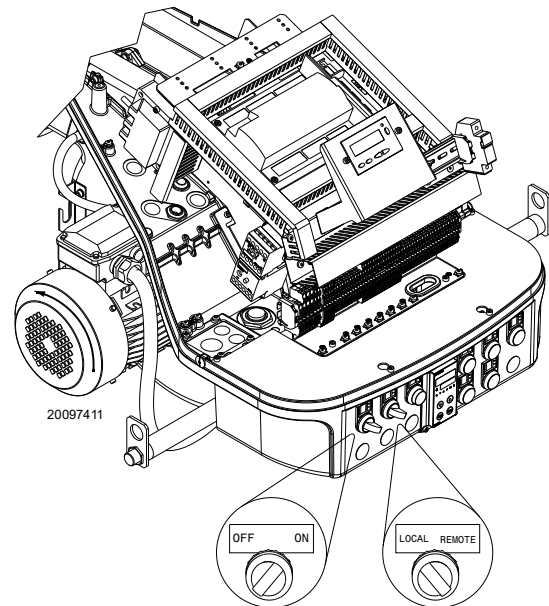

Fig. 37
Close the thermostats/pressure switches, set the parameters on the RWF 55 regulator. Please refer to the specific manual for this operation. Turn the switch of Fig. 37 to position “ON” and turn the switch of Fig. 37 to position “LOCAL”.
Make sure that the lamps or testers connected to the solenoids, or indicator lights on the solenoids themselves, show that no voltage is present. If voltage is present, stop the burner **immediately** and check the electrical wiring. When the burner starts, check the direction of the motor rotation, as indicated in Fig. 37.
- place the switch of Fig. 37 in position “0” and wait for the flame control to carry out the switch-off phase;